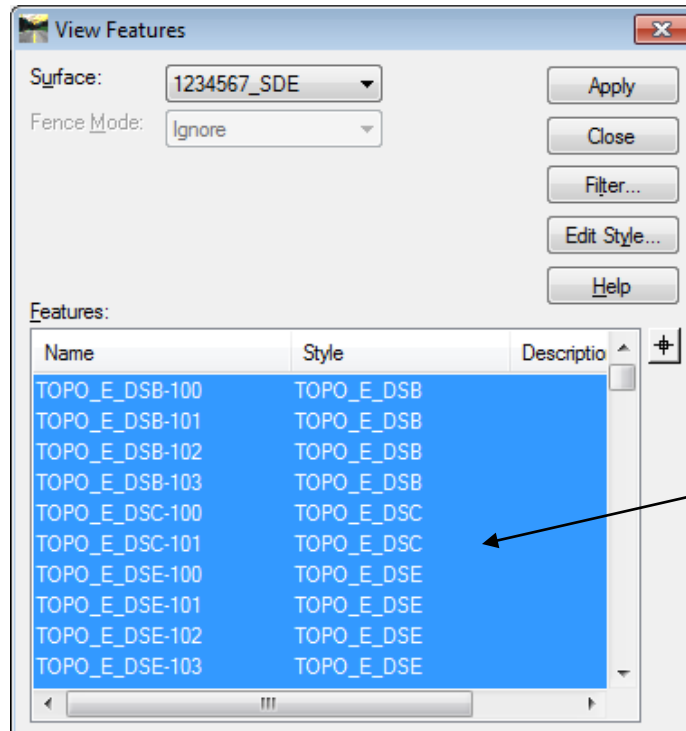

**Figure L3-17** MicroStation View of Geometry Cogo Points
- Verify that the MicroStation view window matches that shown in *Figure L3-17* below.